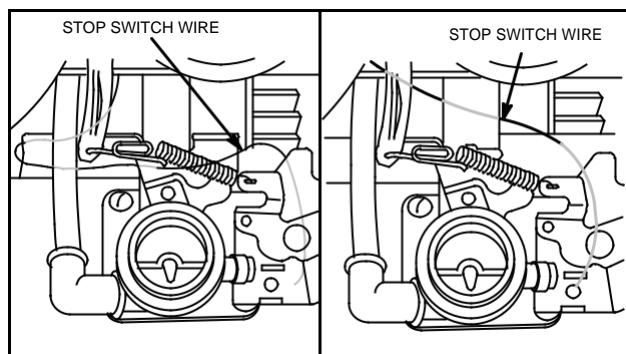

Fig. 171 - STOP SWITCH WIRES
6. Install mounting bolts. Fig. 171 shows routings of stop switch wires.